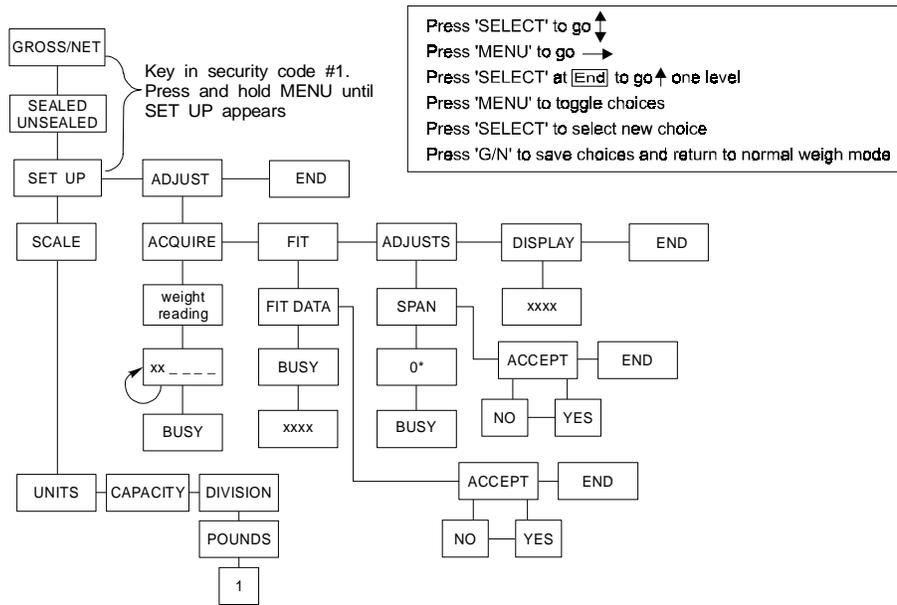

Figure 1
5. You are now in the Configuration Menu. To move around within the Configuration Menu follow the instructions printed in the box in Figure 1. Specific instructions for cornering and acquiring data points are detailed on the following pages.
1. Set the WI-125 indicator to read in one pound divisions by following the steps shown in Figure 1. **Remember to reset divisions to a certifiable increment when finished.**